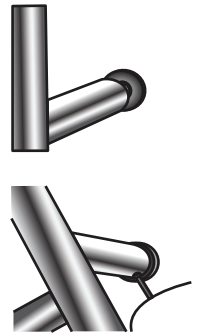

Fig. 6
- o **g**: Set Screw (this part may already be installed inside the Metal Wall Leg) (See Fig. 6).
- o Set Screw **g** is inserted in Metal Wall Leg **d** (See Fig. 6).
Step 6: Mounting main body onto wall (Fig. 6)
- Take main body and position each of the four (4) legs on top of the Wall Posts **b**.